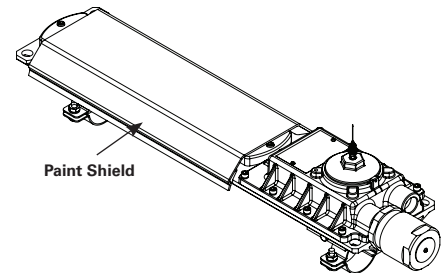

Figure 14
2. Locate the shield over the light emitting surface with the open portion facing the luminaire (see Figure 14).